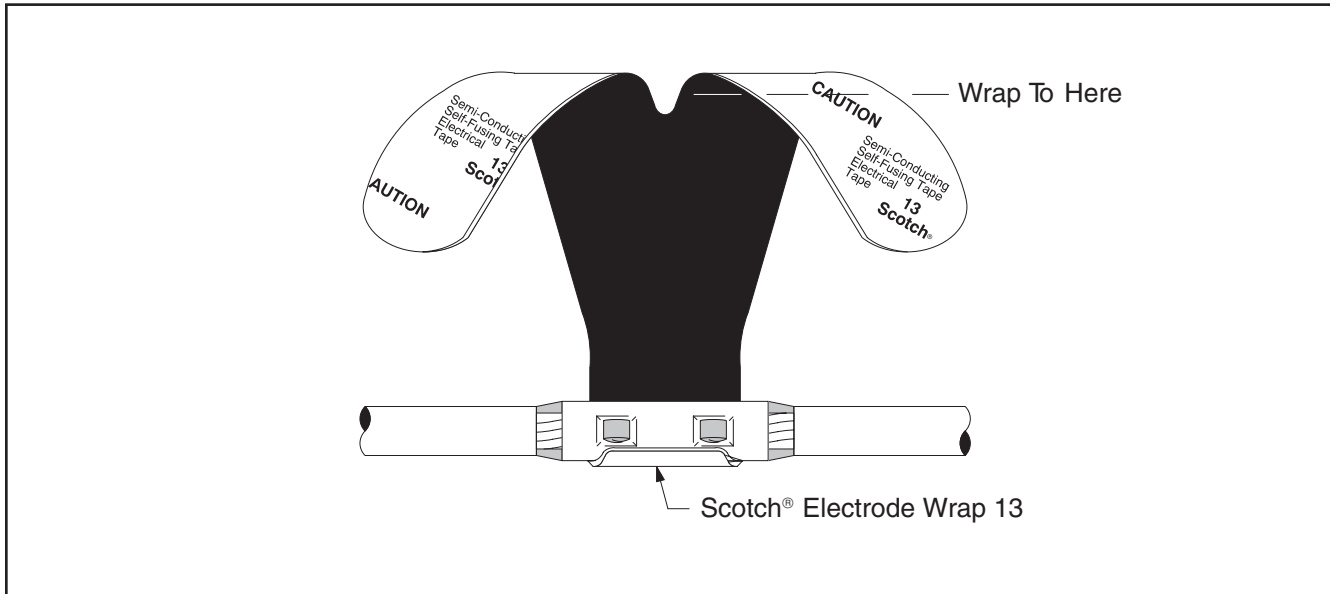

Figure 9
- a. Remove liner from Scotch® Electrode Wrap 13. Center Electrode Wrap (narrow end) over connector. Wrap around connector with sufficient tension to eliminate gapping and wrinkling. Continue wrapping until Electrode Wrap divides into two legs (*Figure 9*).